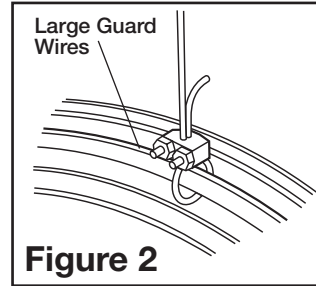

Figure 2
- Loop one end of Cable around the Large Diameter Wires of both the Front and Rear Circulator Guard (Figure 2).
- Attach a Cable Clamp with the "U" on the tail side of the loop leaving a tail approximately 1 to 2 inches. Tighten Clamp Nuts. Make sure no part of the Cable interferes with the Blade (Figure 2).